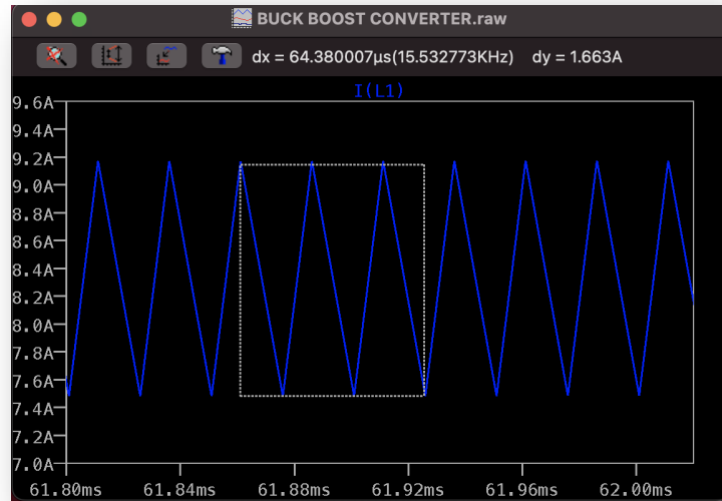

Figure 4: Inductor Ripple
2. The target ripple current on the inductor is to have a peak value equal to 10% of average inductor current. This means that the peak-to-peak ripple must be 20% of average inductor current. Based on the calculations, we have $180\mu\text{H}$. Based on the simulation results, the peak-to-peak ripple is around 1.663A which corresponds to 20% of the average inductor current as shown below in figure 4.